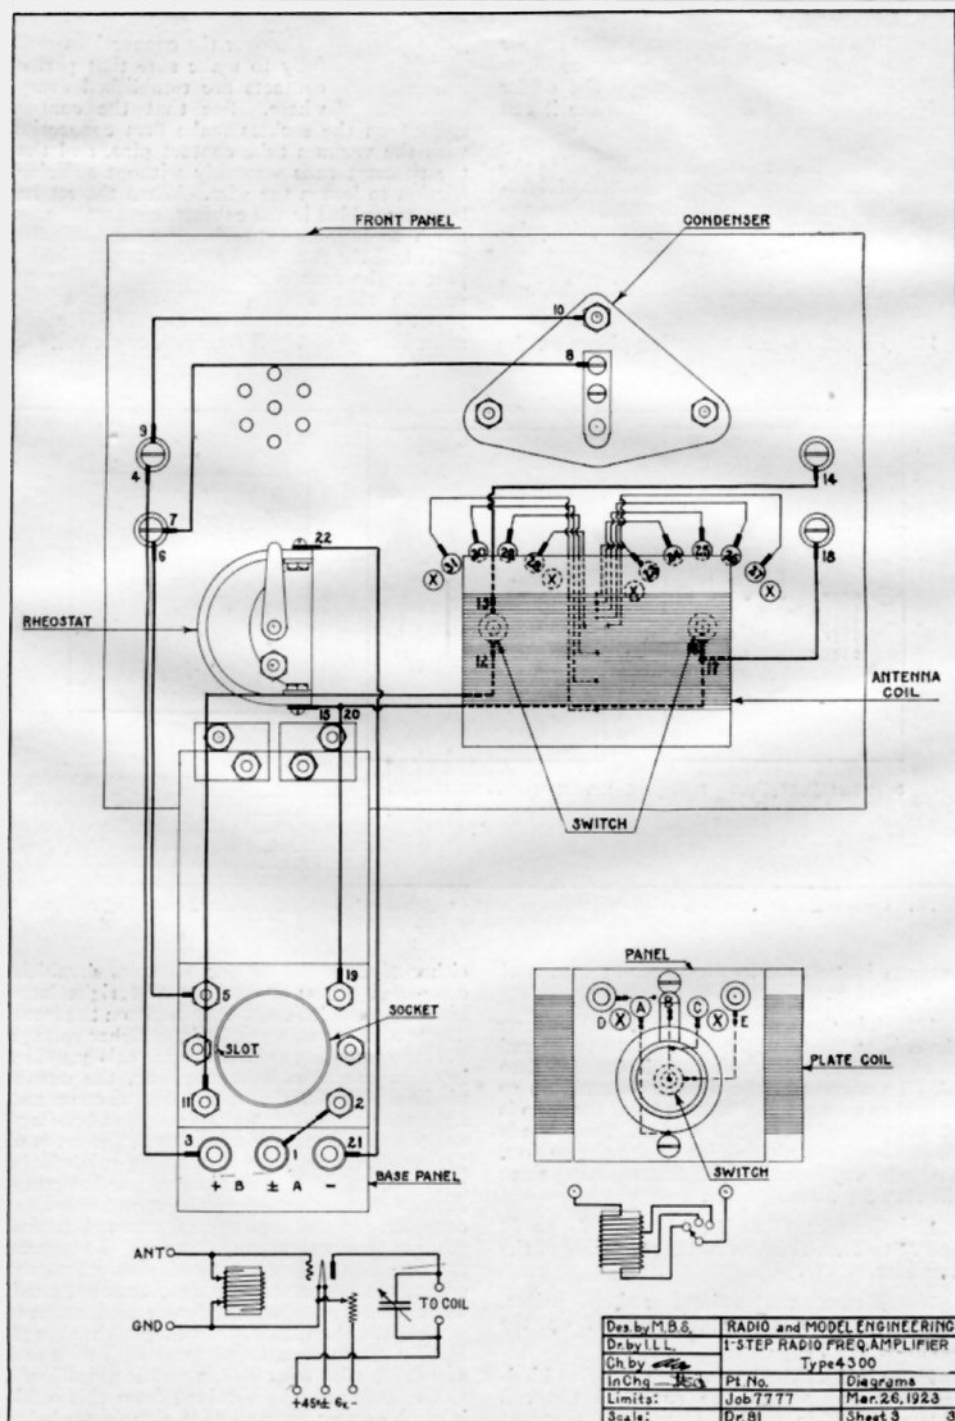

Fig. 7. Picture and schematic diagrams show clearly the method of connecting and the type of circuit
2. Mount the rheostat, using the screws and nuts supplied. Put soldering lugs on each terminal and have them toward the right, as in Fig. 7. Fasten on the knob so that the lines on the knob and panel coincide at the position of the contact arm shown.